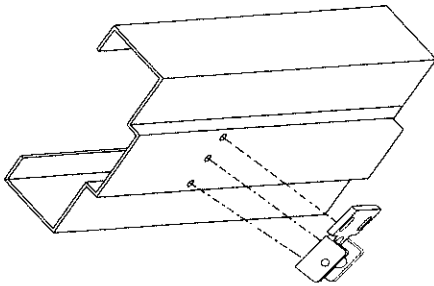
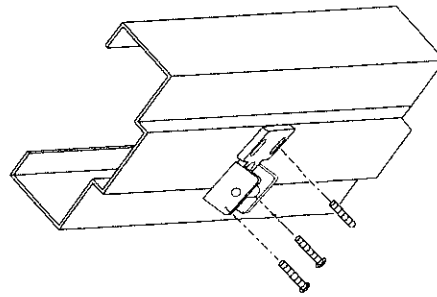

Figure 13
Figure 14
6. Mark mounting holes for top strike on jamb with Strike Template (see Figure 13 ) then fasten with supplied screws. (See Figure 14.)